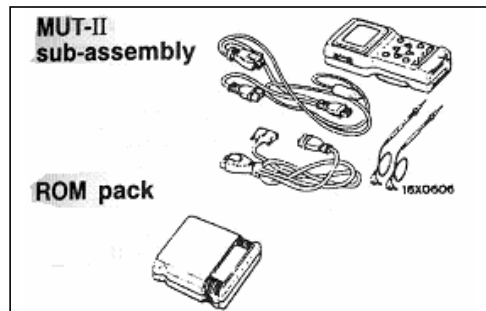

Fig. 20-22
(1)Refer to the “MUT-II REFERENCE MANUAL” or “MUT-II OPERATING INSTRUCTIONS” for instructions on handling the MUT-II. (See fig.20-22)